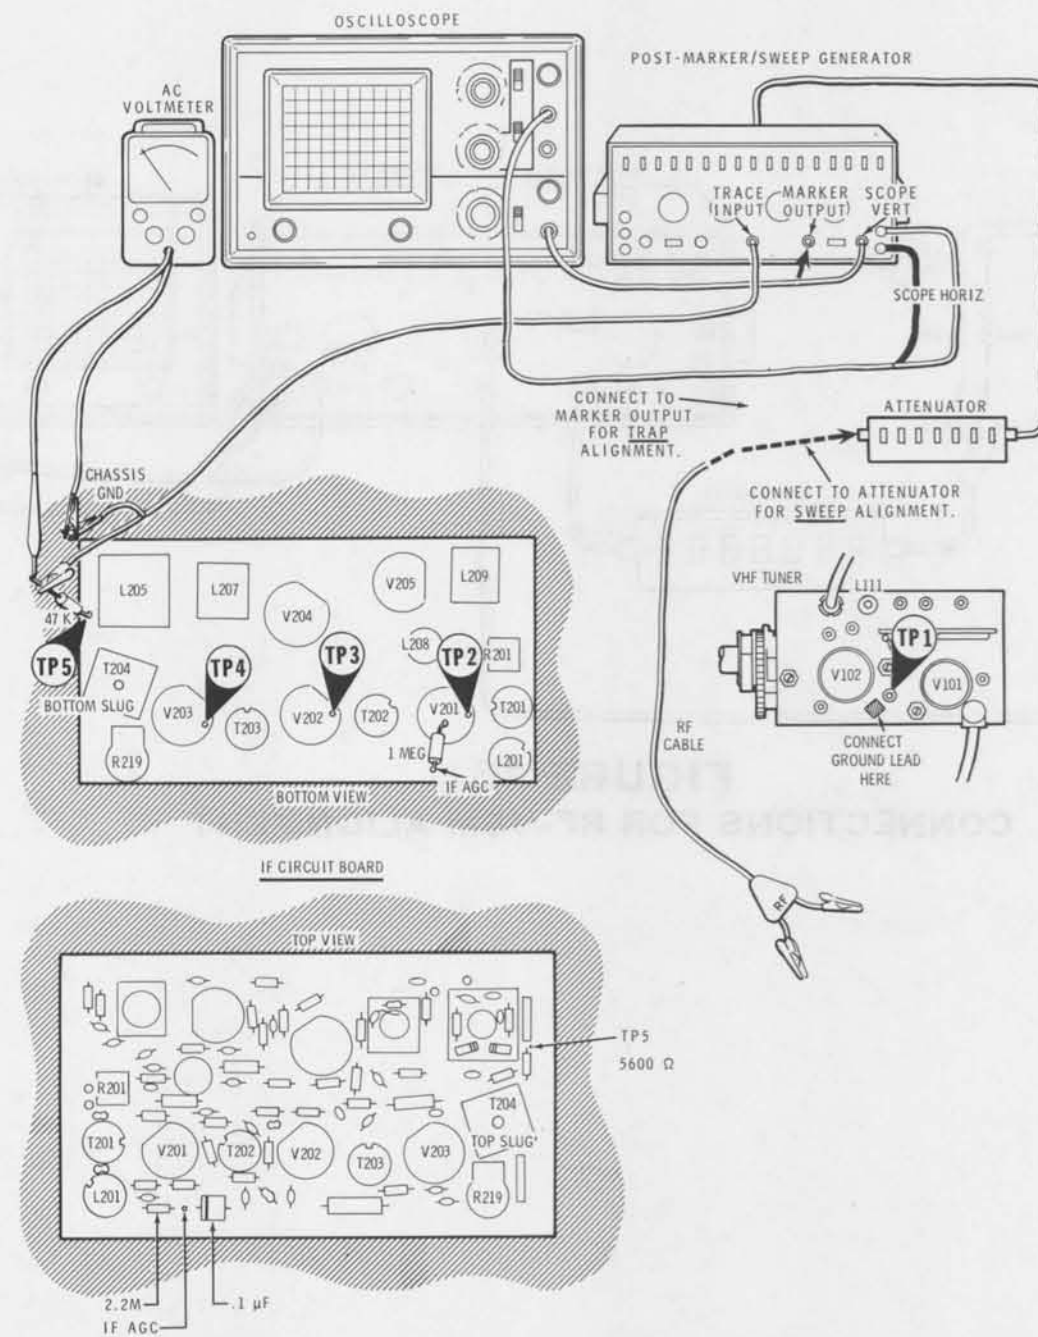

FIGURE 19
Refer to Figure 19 (fold-out from this page) for the following steps.
- ( ) Connect the other end of the RF cable to TP1 and ground on the VHF tuner as shown in Figure 19. Then perform the Trap Alignment as indicated in the following chart. Keep the marker output as low as possible.
Refer to Figure 19 for the following steps, and to the steps in the Sweep Alignment Chart.
- ( ) Remove the RF cable from TP8 and ground and connect it to TP5 and chassis ground. (See Figure 19 for the location of TP5.) Reduce the output of the Generator.
- ( ) Connect a shorting wire from IF AGC to ground (see Figure 19).